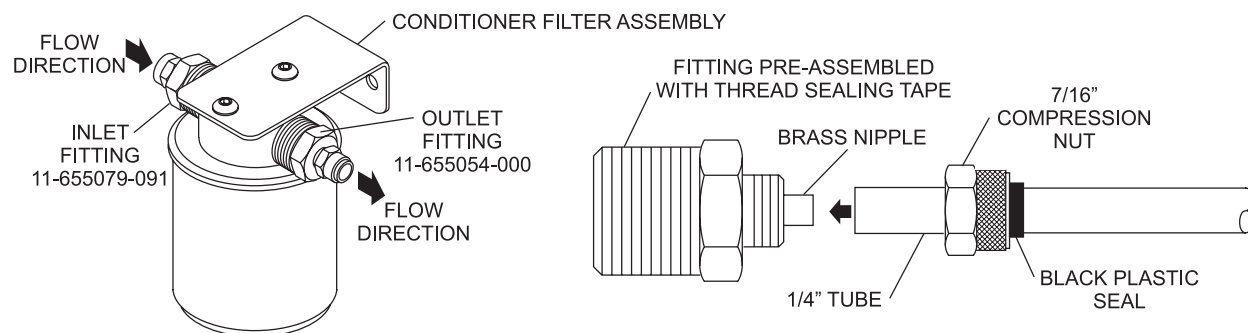

Figure 1
8. Thread the tube through the black plastic seal and onto the brass nipple until it bottoms out. Refer to Figure 1.